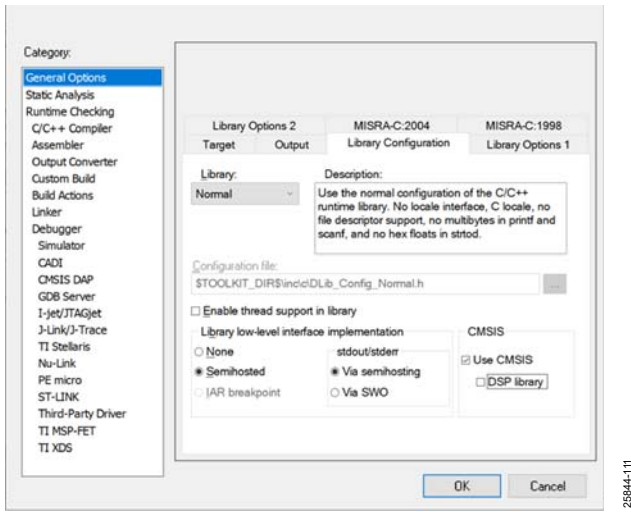

Figure 12. IAR Library Configuration
- After the ADuCM420 device is selected, click the **Library Configuration** tab. Ensure that all settings match those shown in Figure 12.